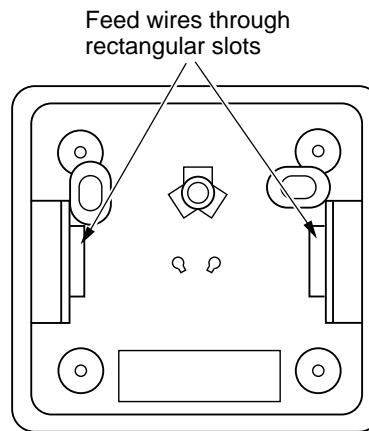

Figure 47 - Back View of Thermostat Base
6. Feed the electrical wires through the rectangular slots (from the back) on each side of the base (see Figure 47).